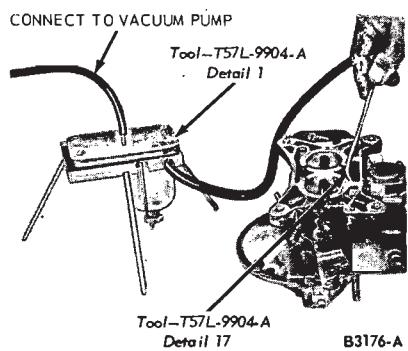

FIG. 10—Typical Power Valve Test
2. Remove the glass bowl from the fixture (Fig. 10). Fill the bowl half-full of water. Install the bowl on the fixture.
3. Connect a line from the vacuum pump to the fitting on top of the fixture. Insert the large OD end of the wand into the tube and attach the other end of the tube to the fitting on the side of the fixture. Slip the rubber gasket (furnished with tool) over the small OD end of the wand. Hold this end against the power valve vacuum pick-up port (Fig. 10).